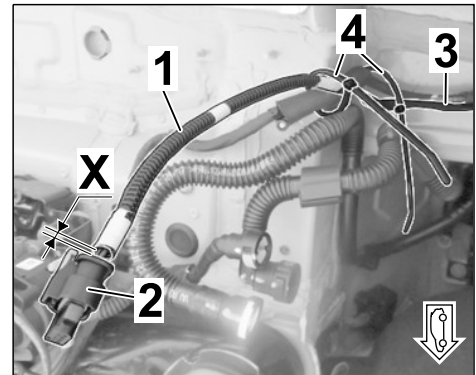

Figure 39
- 3.4.5 Install corrugated hose 4.5 x 7.6 x X to each branch from a distance of approx. 30 mm from the connector (socket housing 4-pin) to the underbody (⇒ *Figure 39*).